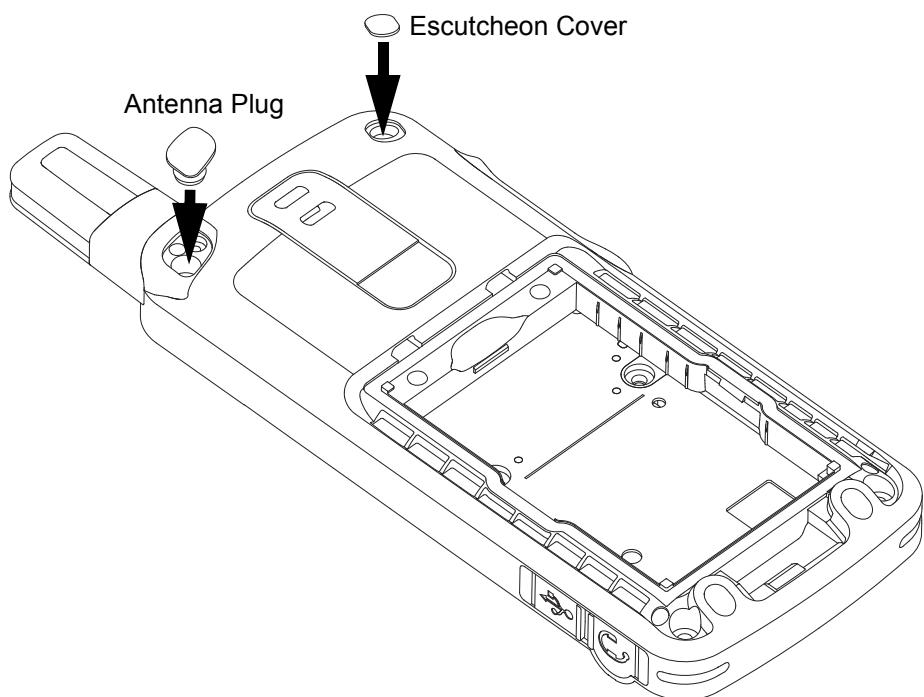

Figure 5-35. Antenna plug and screw plug reassembly
9. Insert the antenna plug and a new escutcheon cover to the back housing as shown in Figure 5-35.